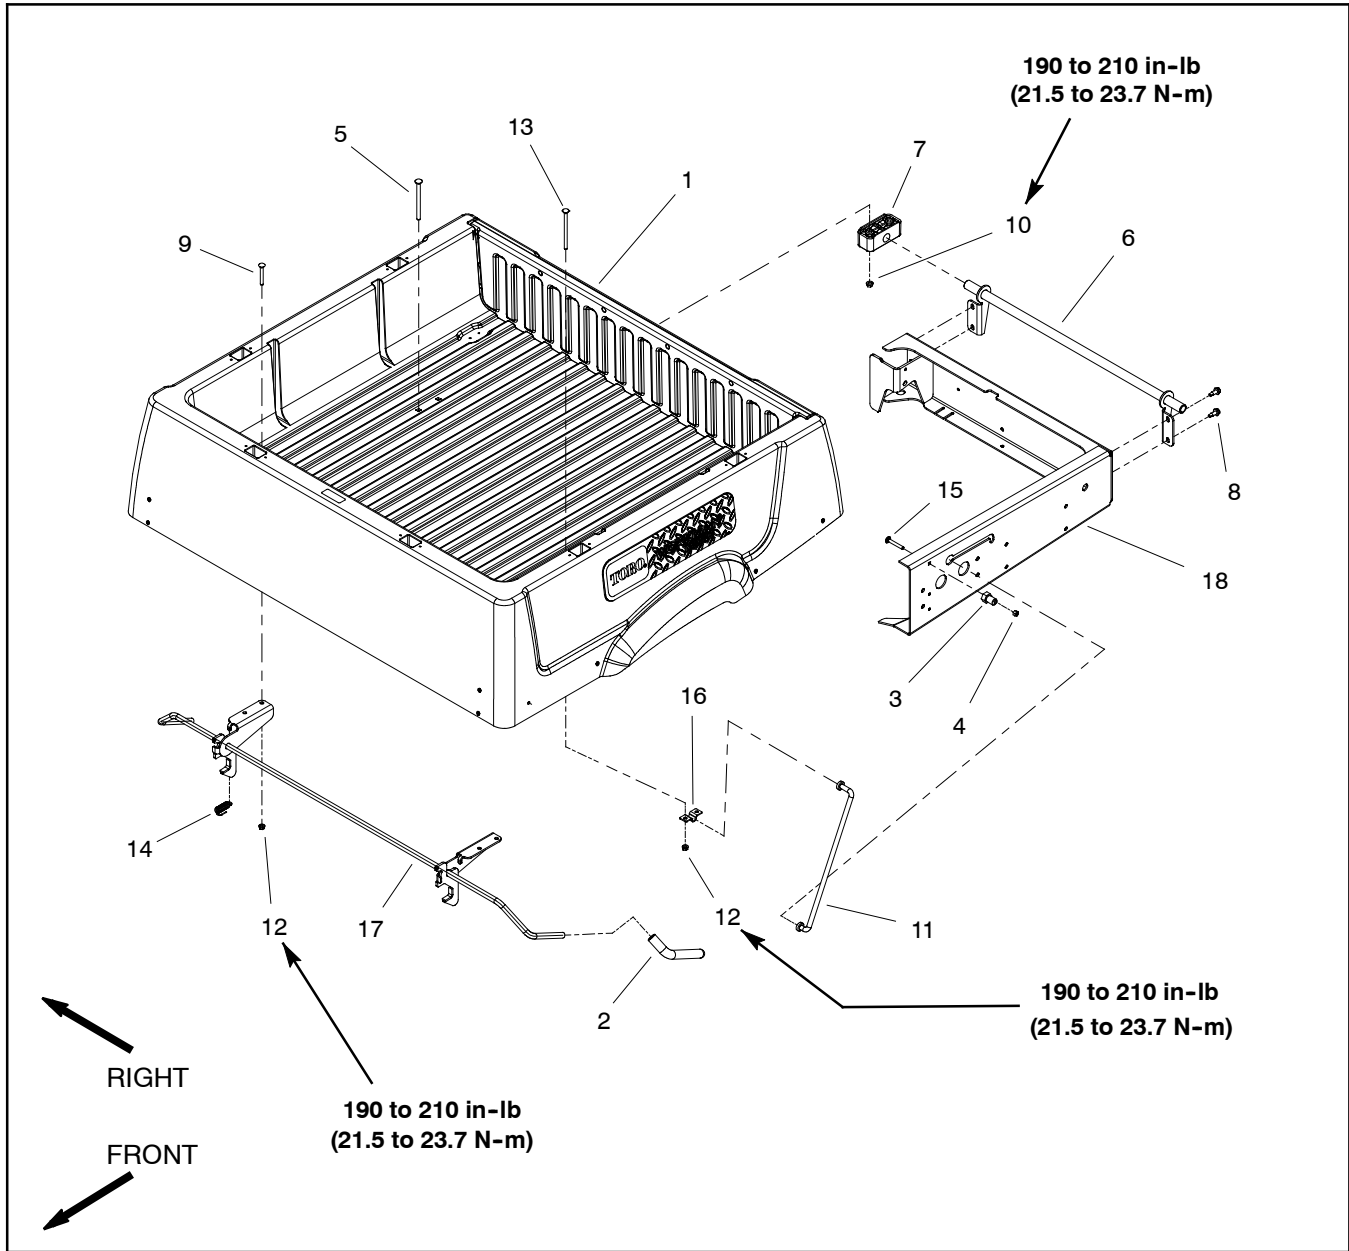

Figure 36
Removal (Fig. 36)
2. Disassemble cargo box as necessary using Figures 36 and 37 as guides.
Installation (Fig. 36)
1. Assemble cargo box using Figures 36 and 37 as guides.
A. When installing cargo box, use torque specifications identified in Figure 36.
C. Adjust latch pin (item 3 in Figure 36) so that cargo box is tight to frame when latched.